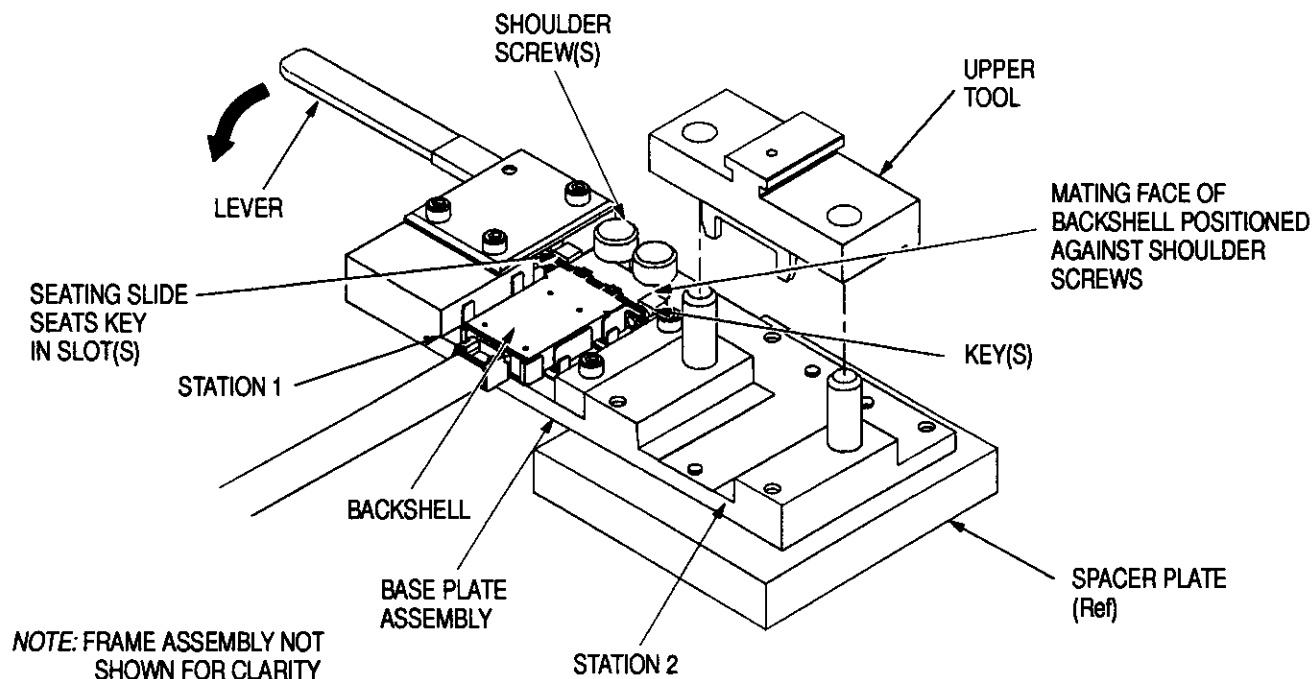

Figure 5
1. Place backshell into Station 1 of the base plate assembly. Slide the backshell back until the mating face of the backshell is positioned against and under the head of the shoulder screws. See Figure 5.
2. Holding the backshell in place, pull the lever so that the seating slide seats the keys into the slots of the backshell. Refer to Figure 5.